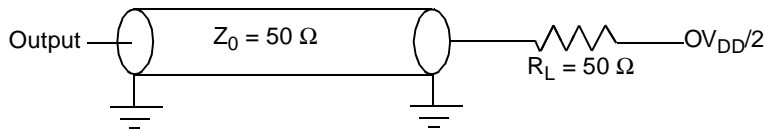

Figure 25. AC Test Load for the JTAG Interface
- All outputs are measured from the midpoint voltage of the falling/rising edge of t_{CLK} to the midpoint of the signal in question. The output timings are measured at the pins. All output timings assume a purely resistive 50 Ω load (see Figure 25). Time-of-flight delays must be added for trace lengths, vias, and connectors in the system.
- The symbols for timing specifications follow the pattern of $t_{\text{(first two letters of functional block)(signal)(state)(reference)(state)}}$ for inputs and $t_{\text{(first two letters of functional block)(reference)(state)(signal)(state)}}$ for outputs. For example, $t_{\text{JTDV KH}}$ symbolizes JTAG device timing (JT) with respect to the time data input signals (D) reaching the valid state (V) relative to the t_{JTG} clock reference (K) going to the high (H) state or setup time. Also, $t_{\text{JTDX KH}}$ symbolizes JTAG timing (JT) with respect to the time data input signals (D) went invalid (X) relative to the t_{JTG} clock reference (K) going to the high (H) state. In general, the clock reference symbol is based on three letters representing the clock of a particular function. For rise and fall times, the latter convention is used with the appropriate letter: R (rise) or F (fall).
Figure 25 provides the AC test load for TDO and the boundary-scan outputs of the MPC8347EA.